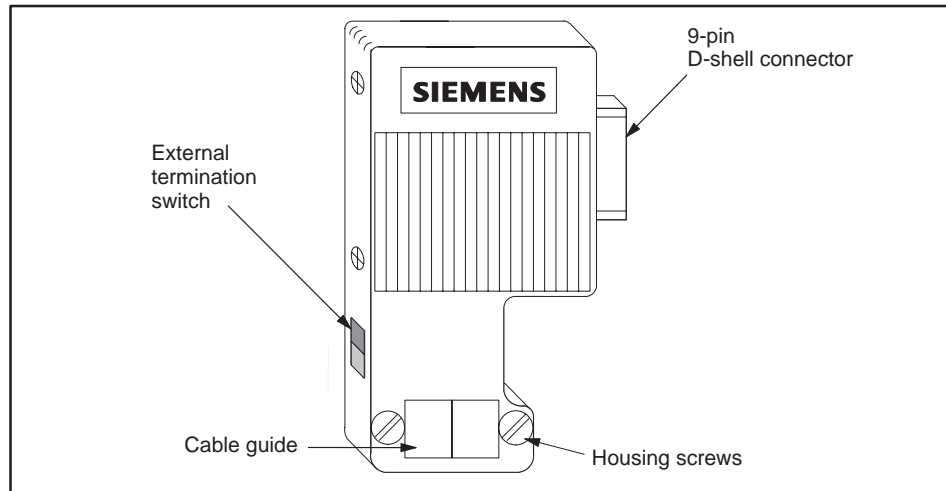

Figure 3-8 Typical PROFIBUS Connector
1. Open the connector housing by loosening both housing screws (see Figure 3-8).